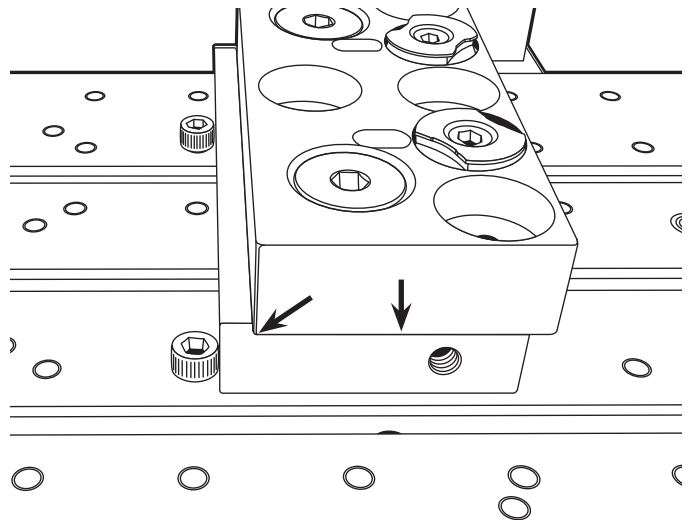

FIGURE 22
2. The top jaw will be forced down and back against the lip on the fixed bottom plate when it is assembled just as the 35522 top jaw (see Figure 22).